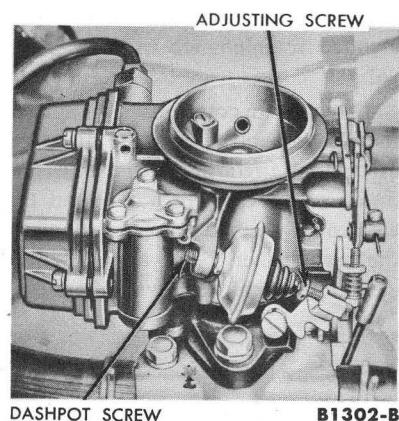

FIG. 9—Anti-Stall Dashpot Adjustment
1. With the engine idle speed and mixture properly adjusted, and the engine at operating temperature, turn the anti-stall dashpot adjusting plunger in or away from the dashpot plunger (Fig. 9).
2. Hold the throttle in the closed position. Depress the plunger with a screwdriver blade (Fig. 9). Turn the adjustment screw out (toward the plunger) until a clearance of 0.060-0.090 is obtained between the screw head and the tip of the plunger.